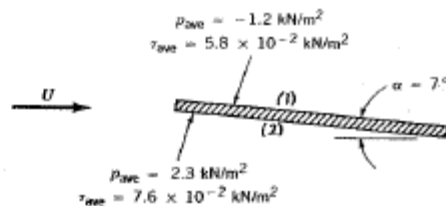

FIGURE P9.4
9.4 The average pressure and shear stress acting on the surface of the 1-m-square flat plate are as indicated in Fig. P9.4. Determine the lift and drag generated. Determine the lift and drag if the shear stress is neglected. Compare these two sets of results.